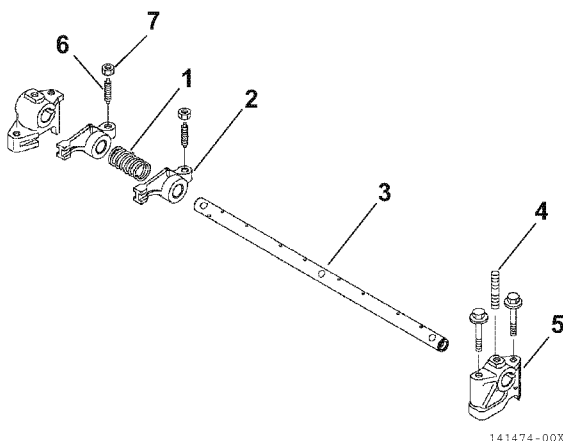

Figure 6-40
1. Lubricate the rocker arm shaft. Slide the rocker arm supports (5, **Figure 6-40**), springs (1, **Figure 6-40**) and rocker arms (2, **Figure 6-40**) onto the shaft.
- To properly align the rocker arm shaft with the rocker arm shaft supports, first reinstall a rocker arm support (5, **Figure 6-40**) having a hole for the shaft alignment stud (4, **Figure 6-40**). Align the hole in the rocker arm shaft and the hole in the rocker arm support. Reinstall the alignment stud.
Note: **Figure 6-40** shows components for one cylinder. Components for all remaining cylinders are assembled in the same order.
3. If removed, reinstall the valve adjusting screws (6, **Figure 6-40**) and the lock the nuts (7, **Figure 6-40**).